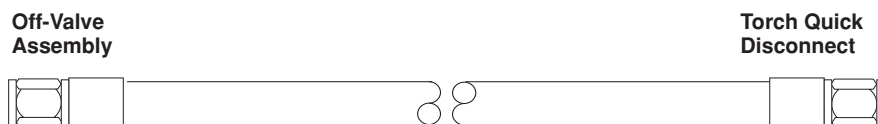
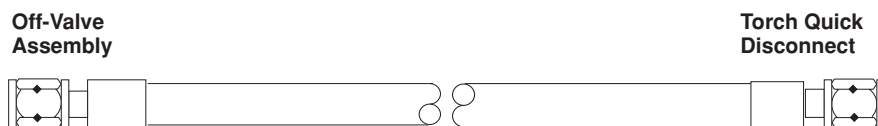

Figure 3-27 Shield Gas Hose Assembly, 3/16 Inch Gray RH "A"
Figure 3-28 Plasma Gas Hose Assembly, LH "A"
⑯ **Shield Gas Hose (Figure 3-27)**
- Connect the gray hose to the shield inlet fitting (RH).
⑰ **Plasma Gas Hose (Figure 3-28)**
- Connect the clear hose to the plasma inlet fitting (LH).